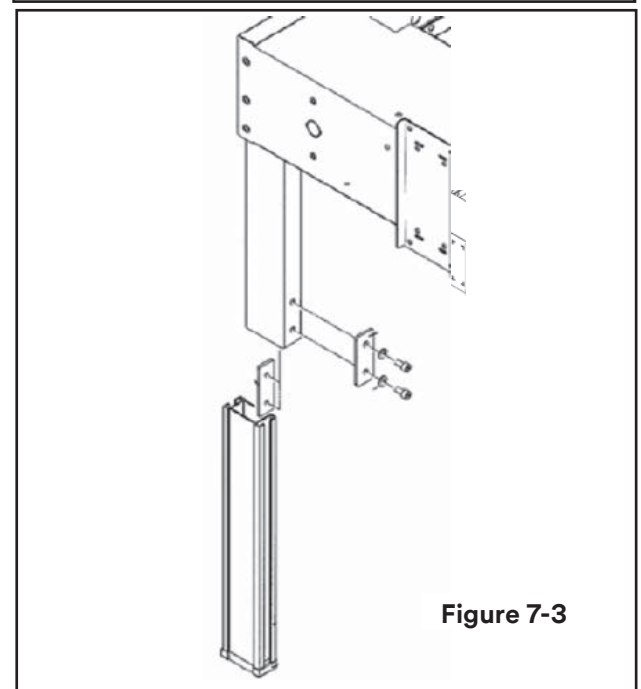

Figure 7-3
2 - Adjust machine bed height. The case sealer is equipped with four (4) adjustable legs that are located at the corners of the machine frame. The legs can be adjusted to obtain different machine bed heights (Figure 7-3).